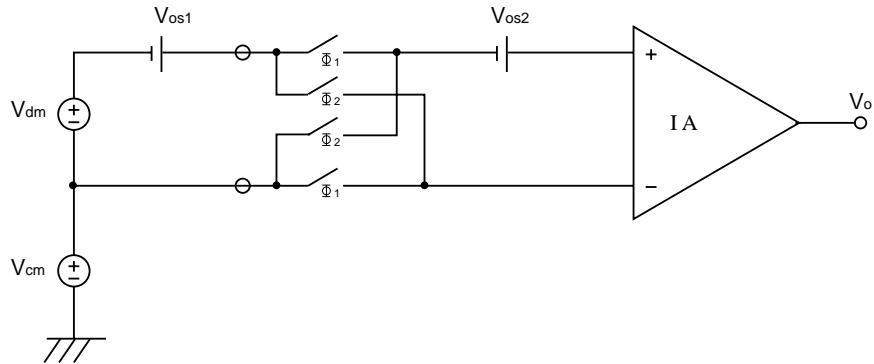

Figure 1. Reversed Differential Inputs.
Input reversal is often used in differential measurements (Fig. 1) to reduce instrumentation amplifier (IA) offset and common-mode gain errors. The result is obtained from two separate differential measurements, Φ_1 and Φ_2 , where the polarity of the input signal with respect to the IA is reversed between the two. The polarity of the offset and common-mode gain errors are not reversed, however, and these errors cancel when Φ_2 is subtracted from Φ_1 .
Referring to Fig. 1, the result of the first measurement is